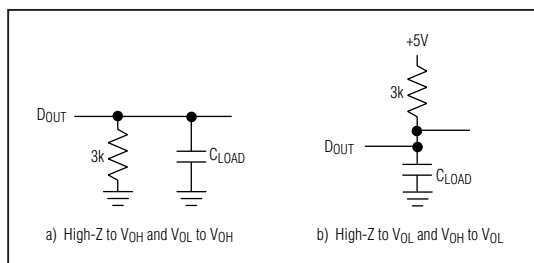

図2. イネーブル時間用の負荷回路
**Note 12:**  $t_{DO}$  is measured with the load circuits of Figure 2 and defined as the time required for an output to cross 0.8V or 2.4V.